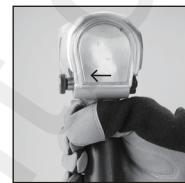

Figure 3
- How to install/tighten threaded fasteners. Push the valve stem (F) forward as indicated by "F" marking on the lable. Press the trigger. Then the tool anvil runs clockwise. (See Figure 3)